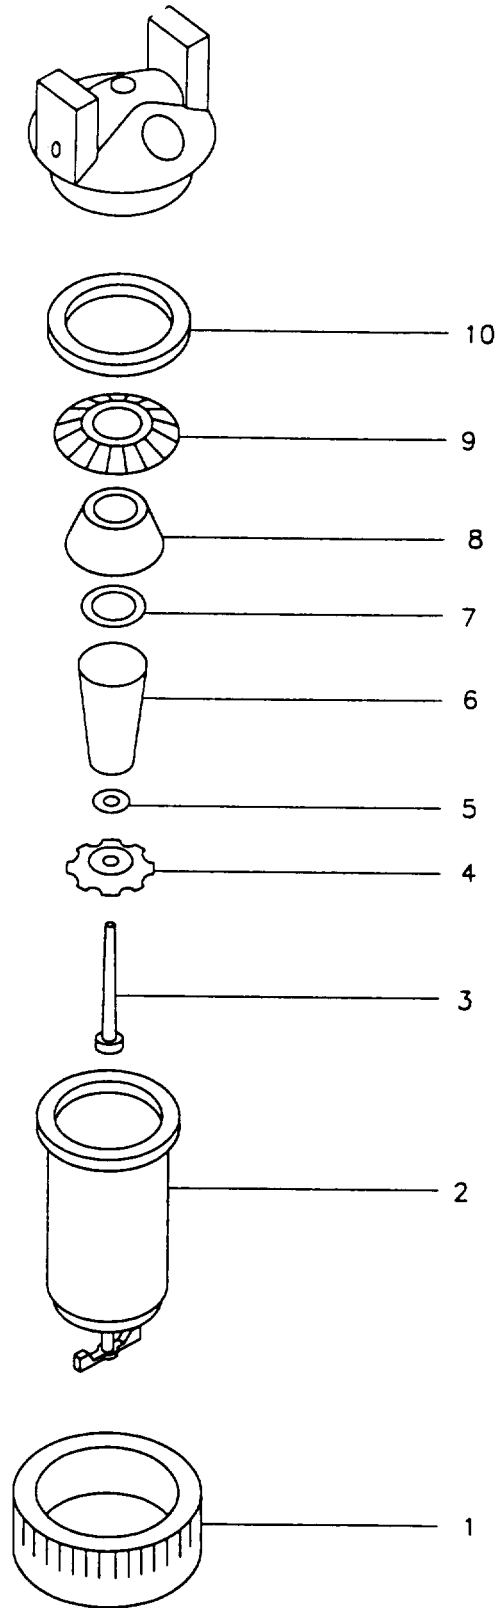

Figure 4-15. Air Filter Service
**4-22 AIR FILTER SERVICE. (Refer to Figure 4-15)**